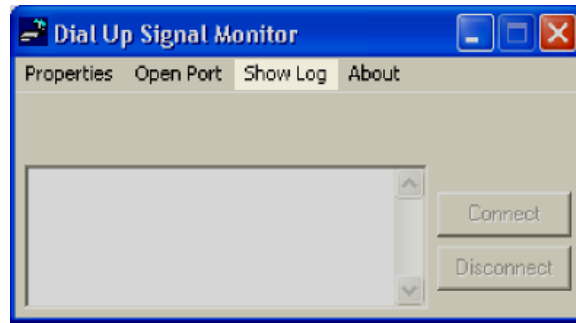

Figure 27. Dial Up Signal Monitor – Show Log
- (1) Select Show Log from the DUSM Options Menu (see Figure 27).